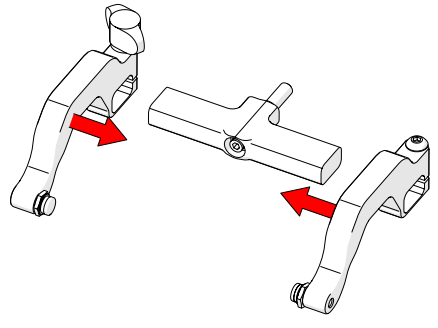

Fig. 47 - Remove outer arm
6. Place the probe holder arms on the yoke and tighten the arm clamp screw and probe holder adjustment knob (Fig. 47).